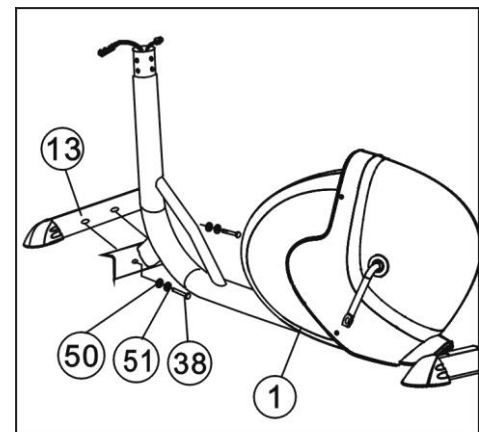

Figure 2
Attach the Front stabilizer (13) to the Main Frame (1) with two sets of M8×20 Bolts (38), Φ8 spring washers (51), and Φ8 Flat washers (50). (Refer figure 2)